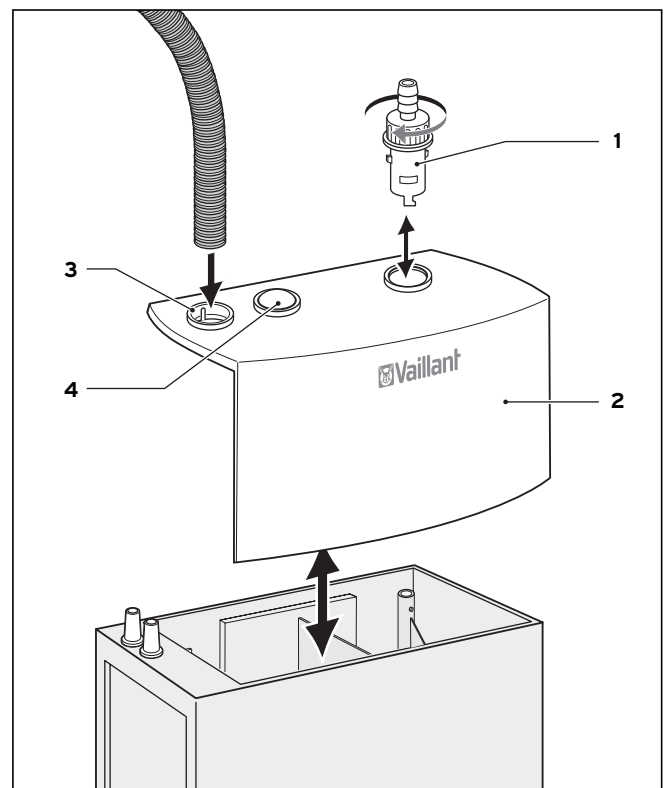

Fig. 5.1 Removing the return valve and cover
- Connect the feed hose to the ecoLEVEL condensate pump as shown in Fig. 5.1.